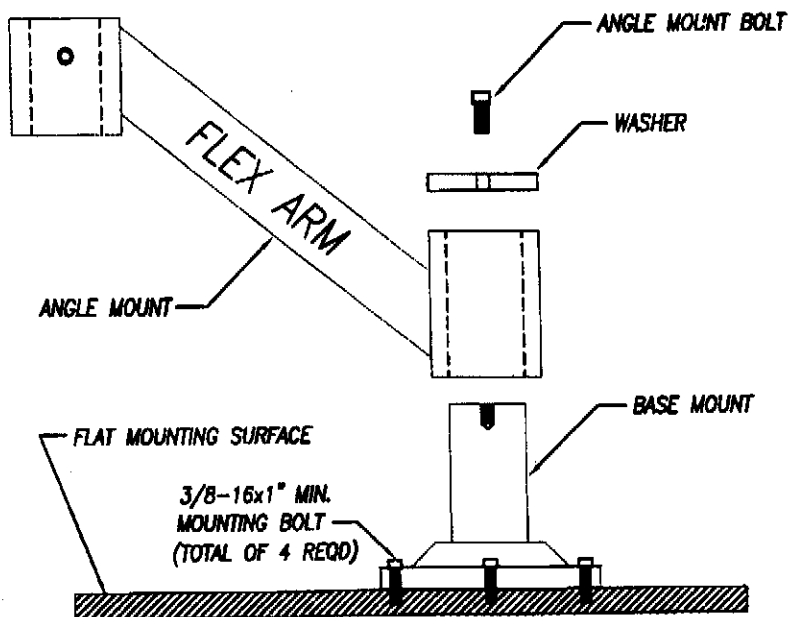

FIGURE 2
- 2) Fasten the *FlexArm* base mount to the table and secure it with 3/8" bolts (see Figure 2).
- 3) Slide the angle mount over the shaft of the base mount (see Figure 2).